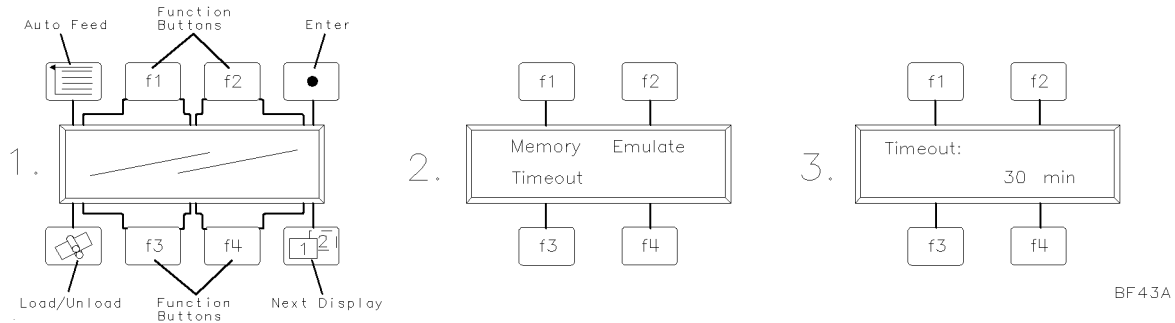

Figure 8-2. HP 7550B Plotter Display
1. Press **Next Display** until **Timeout** appears. (Figure 8-2, step 1)
2. Press **Timeout**. (Figure 8-2, step 2)
3. Press **f4** to view the **Timeout** then press **f3** to see the previous option. (Figure 8-2, step 3)